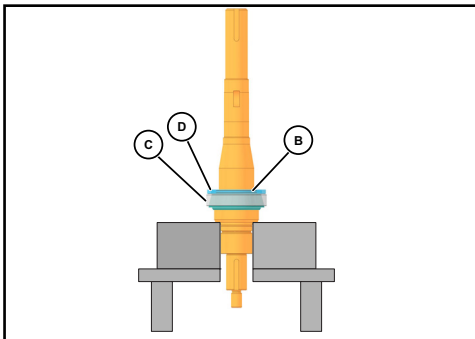

Figure 51 - Inner & Outer Spacer and Lower Cup
4. Place the inner spacer (Figure 51, item B) over the shaft onto the lower cone and roller assembly.